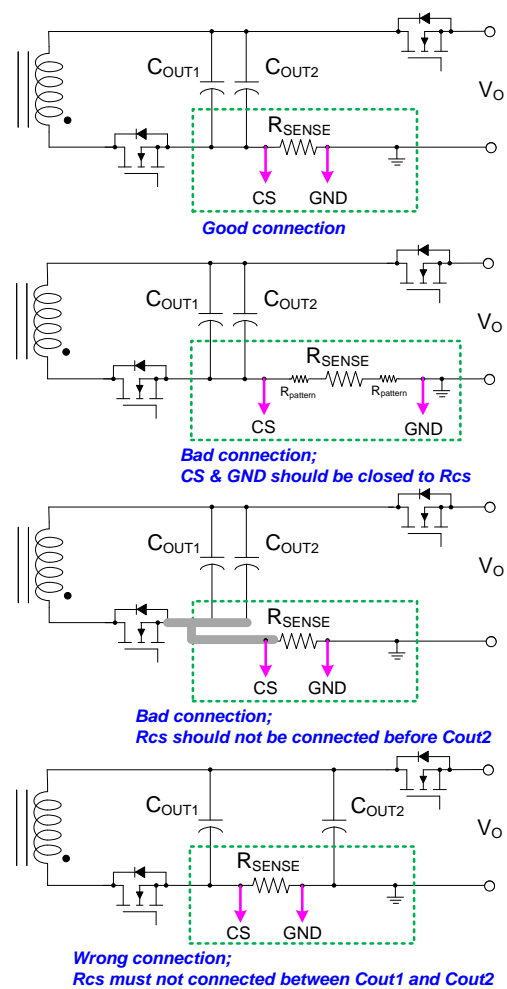

Figure 33 Examples of Sensing Resistor Connection
Printed Circuit Board (PCB) layout and design are very important for switching mode power supplies where the voltage and current change with high speed. Good PCB layout minimizes Electro-Magnetic Interference (EMI) and prevents excessive noise from surge or Electro-Static Discharging (ESD). As shown in Figure 33 C_{OUT1} and C_{OUT2} are the output capacitors; Q₂ is the secondary-side SR MOSFET. The following guidelines are recommended for layout designs.
- The sensed voltage via R_{CS} is very small value. In order to avoid offset voltage or avoid inducing switching noise on the sensed voltage, R_{CS} should be connected between ground of C_{OUT2} and power ground. And R_{CS} should be positioned as close as possible to CS pin and GND pin. Refer to Figure 33.